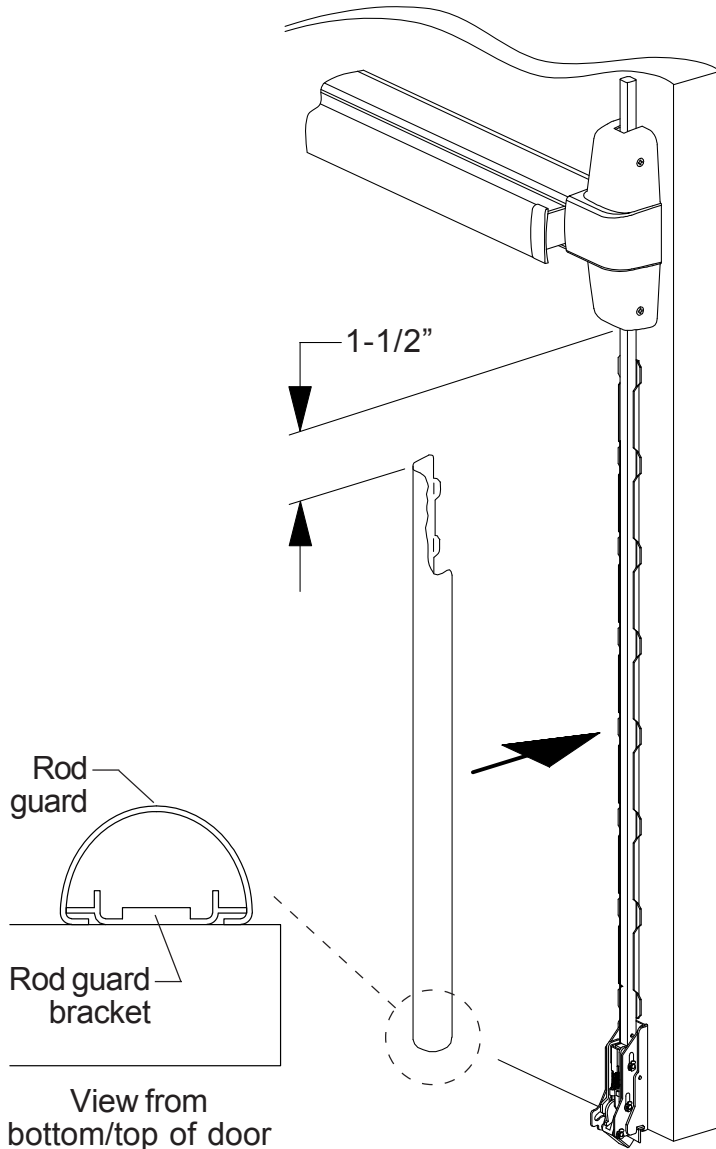

Figure 7
- 13 Place rod guard over rod guard bracket on door 1-1/2" away from center case cover with cut end of rod guard toward latch (Figure 7). Push rod guard towards device so tabs on rod guard slide under tabs on rod guard bracket.